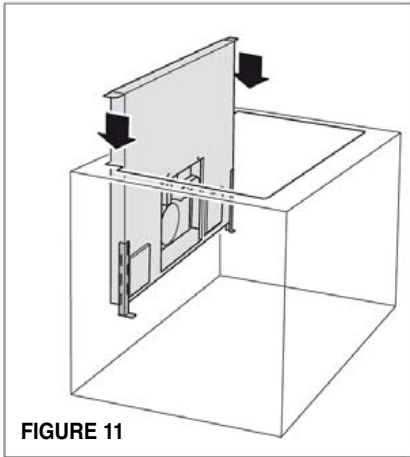

FIGURE 11
5) With the assistance of another person, lift the hood into the prepared cut out in the cabinet. The top mounting brackets should rest on the countertop. (FIGURE 11)